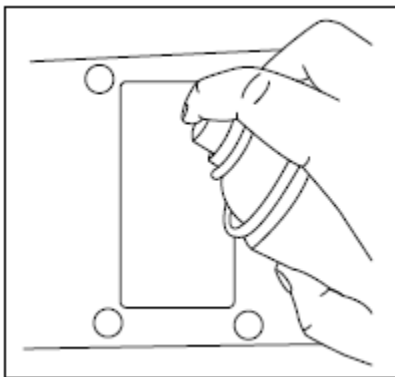

Figure 5: Apply lacquer
- Use lacquer, which will make it easier for the polymer to adhere to the print base (Figure 5).